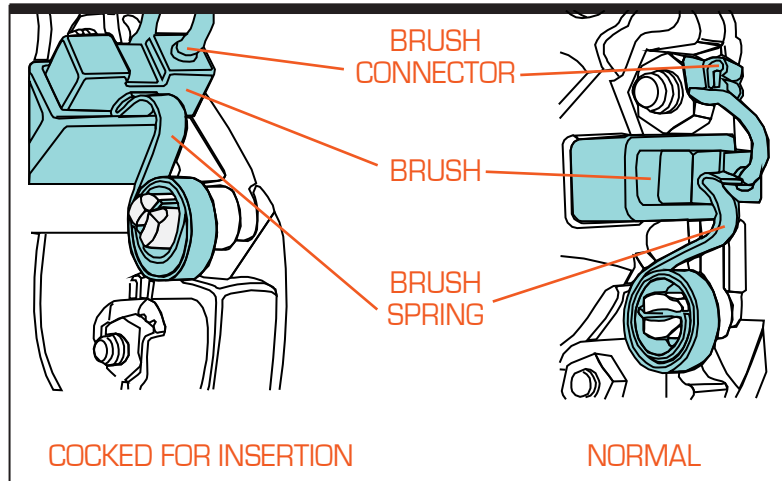

Figure 4-3. DC Motor Brushes with Gasketed Cover Removed
Step 4—Replace Brushes. Lift the brush spring from the end of the brush (see Figure 4-3). Remove the brush connector, withdraw the brush and inspect the length. To prevent motor damage, brushes should be replaced when or before they reach the half way point. Reverse procedure to replace brush. Replace motor access and feeder covers. Connect power and air. Initial and date the Maintenance Log.